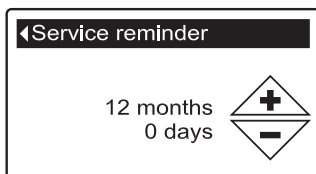

FIG. 79
7. Press the SELECT (O) button to display the Service reminder screen (See Figure 79).